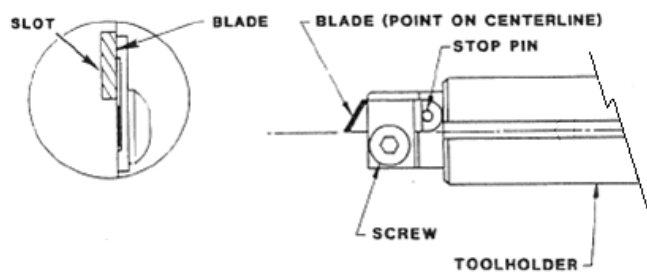

Figure 34
3. Install the replacement blade in the slot provided, not riding up on either edge. Gently seat the flat end of the blade against the pin stop with the blade point toward the center of the tool. Retighten the hex screw using the Allen wrench. See Figure 34.